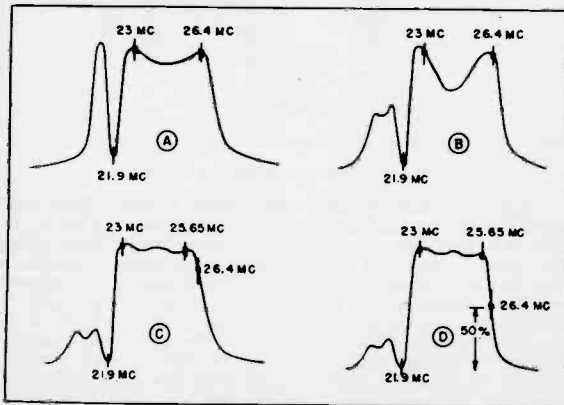

Fig. 10. Video I-F Alignment Curves
One-stage-at-a-time alignment should be performed so as to duplicate the curves, as shown in Figure 10. The markers are used to establish the correct bandwidth and frequency limits.
The response curves shown in Figure 10 are obtained on an oscilloscope at the junctions of R23 and L15. Use a 10,000-ohm resistor in series with the input lead to the scope for isolation. Set contrast control to position as indicated under "Remarks" for each step.
| 1 | 23.0 mc & 26.4 mc marker | 20-30 mc sweep | Grid (4) of V13 through 500 mmf. | Junction L15 & R23 through 10K resistor | AM Position. Disconnect lead from Pin 3 of V21 to selector switch. Use temporary jumper across Section S1D wafer of switch to keep television tubes lit while in this position | — | C32 & C35 of T18 for max. amplitude, bandwidth and correct position of markers. See Fig. 10-A. | Short C25 on T17 primary with jumper. |
| 2 | 23.0 mc & 26.4 mc marker | 20-30 mc sweep | Grid (4) of V12 through 500 mmf. | Junction L15 & R23 through 10K resistor | Same as 1. | — | C25 & C26 of T17 for max. amplitude, bandwidth and correct position of markers. See Fig. 10-B. | Remove short across C25. Contrast control set at mid-position. |
| 3 | 23.0 mc & 26.4 mc marker | 20-30 mc sweep | Grid (4) of V12 through 500 mmf. | Junction L15 & R23 through 10K resistor | Same as 1. | — | L24 for min. overshoot. See Fig. 10-B. | L24 is adjusted by spreading or squeezing turns for min. amplitude of overshoot. |
| 4 | 23.0 mc & 26.4 mc marker | 20-30 mc sweep | Grid (4) of V3 through 500 mmf. | Junction L15 & R23 through 10K resistor | Same as 1. | — | C18 of T16 for flat-top of response curve and position markers as shown in Fig. 10-C. | Short primary of T15 with jumper. Contrast control set at about mid-position. |
| 6 | 23.0 mc & 26.4 mc marker | 20-30 mc sweep | Grid (8) of V2 through 500 mmf. | Junction L15 & R23 through 10K resistor | Same as 1. | — | C12 & C14 of T15 for max. amplitude, bandwidth and correct position of markers. See Fig. 10-D. | Remove short across T15 primary. Contrast control set at mid-position. Ground L17. |